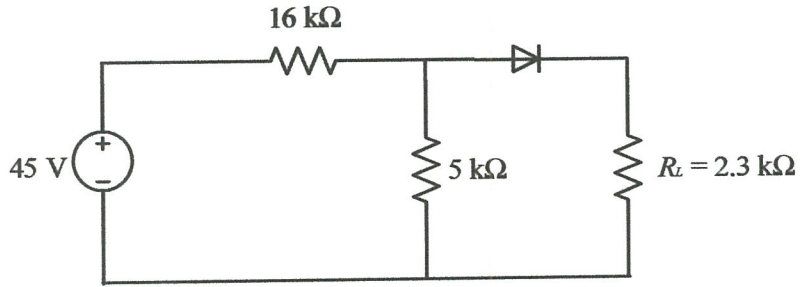

Figure Q1(e)
- (e) Calculate the load voltage, load current and diode power in **Figure Q1(e)** using the second approximation. (10 marks)
- (b) Draw the current-voltage (IV) characteristic of a zener diode. (3 marks)